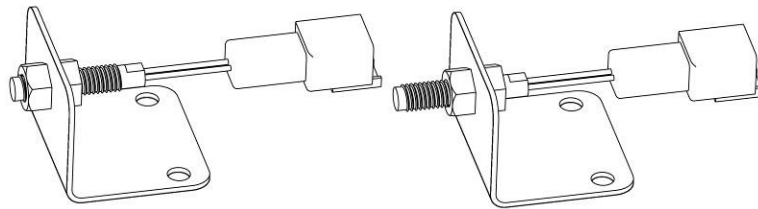

Figure 10: Adjusting the work switch length
8. Adjust the locknuts on the work switch assembly so that the work switch is within one-fourth inch (1/4") of the work switch magnet when the work switch is engaged (refer to Figure 10). Refer to the “To adjust work switch length” instructions for specific detail on this step